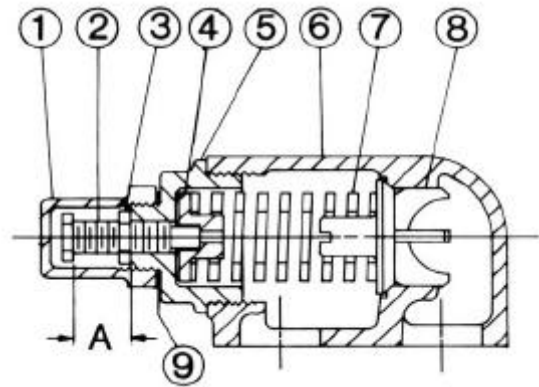

FIGURE 11
- Measure and record the length of extension of the adjusting screw. See "A" on figure 11.